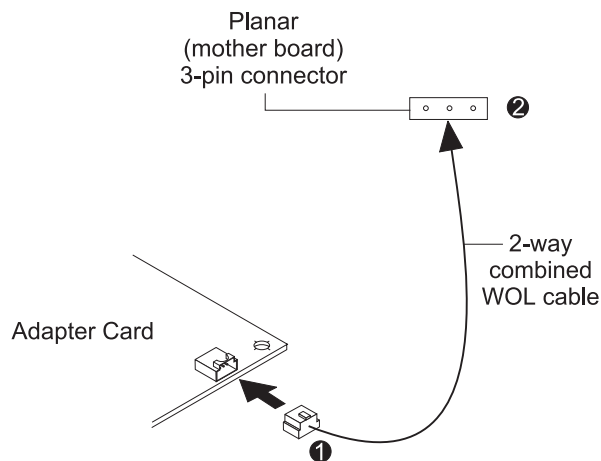

Figure 2. Connecting the 2-way combined Wake on LAN cable to the adapter
2. Connect the other end of the cable to the adapter as shown at number 1 in Figure 2.